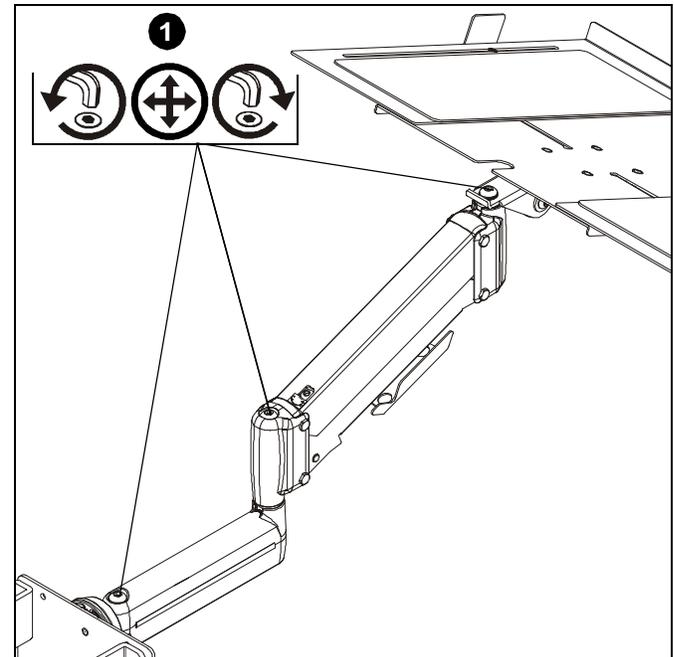

Figure 11
- Using 3/16" hex key (S), slightly loosen or tighten the adjustment screw(s) as necessary. (See Figure 11)